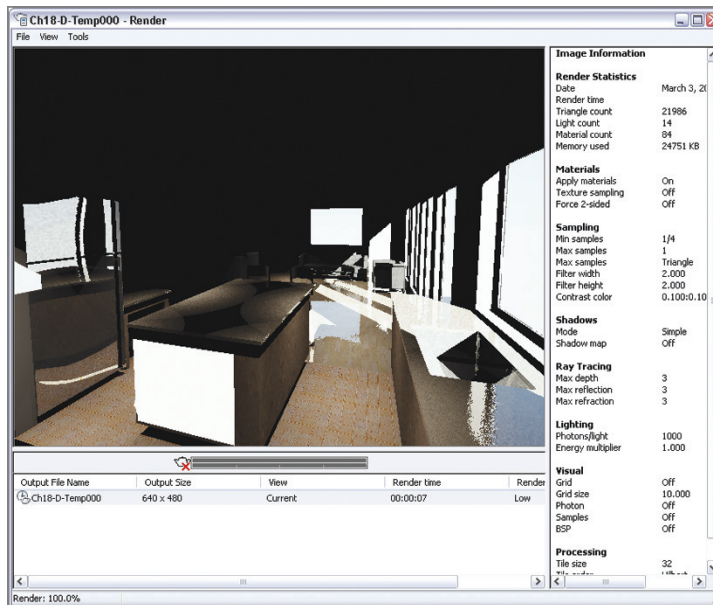

FIGURE 18.16 First test render using Low quality preset
- Open the Render Presets drop-down menu in the Render panel and select Low. Click the teapot icon to initiate the rendering process. Figure 18.16 shows the resulting low-quality rendering that appears after a few moments in the Render dialog box.